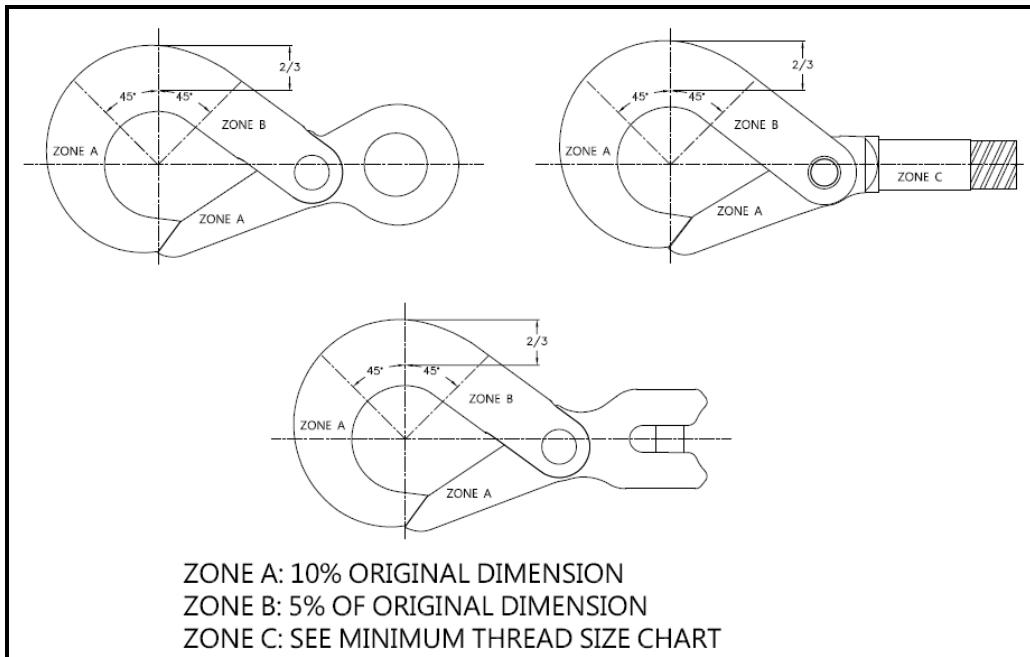

FIGURE 1
- Never use a hook that is worn beyond the limits shown in Figure 1.
- Remove from service any hook with a crack, nick, or gouge. Hooks with a nick, or gouge shall be repaired by grinding lengthwise, following the contour of the hook, provided that the reduced dimension is within the limits shown in Figure 1. Contact YOKE Engineering to evaluate any crack.